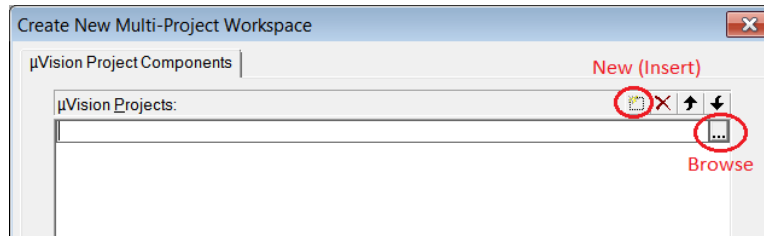

Figure 1.21: Keil IDE: Adding a μ Vision Project into Worksapce
3. A new dialogue box will pop up to ask you add μ Vision projects into the workspace. Click the New button to start adding a project and click the Browse button to select a project file (see Figure 1.21).